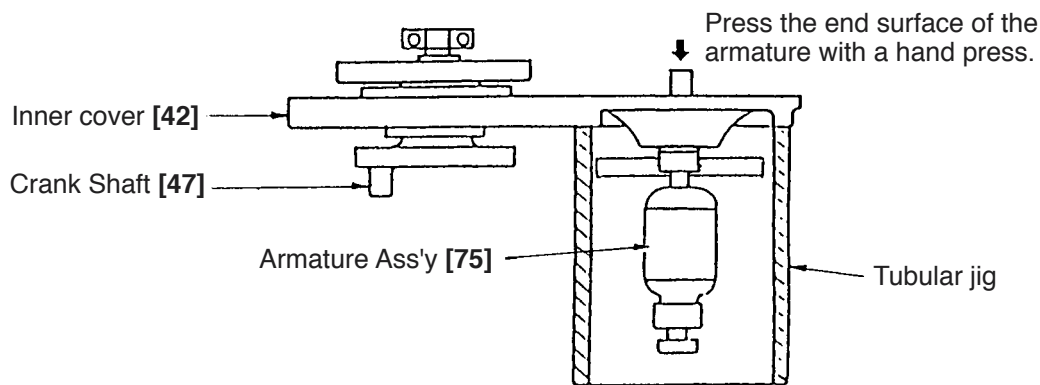

Fig. 4
(1) Disassembly of the Armature Ass'y [75]
- C. Remove the four Seal Lock Hex. Socket Hd. Bolts M5 x 16 [63] and three Tapping Screws (W/Flange) D4 x 25 (Black) [96]. Remove Handle (A) [85], Handle (B) [87], four Nylock Bolts (W/Flange) M5 x 12 [105] and Back Cover [82]. Remove the six Seal Lock Hex. Socket Hd. Bolts M6 x 45 [60], Gear Cover [38] and Counter Gear [65]. Insert a flat-blade screwdriver or a similar tool into the air vent of the Inner Cover [42] and raise the Inner Cover [42]. Then the Inner Cover [42], Armature Ass'y [75] and Crank Shaft [47] can be removed as a single unit. At this time, be very careful not to damage the Fan [74].
- D. As illustrated in Fig. 4, support the Inner Cover [42] with an appropriate tubular jig, and push down on the end surface of the armature shaft with a hand press to separate the Armature Ass'y [75] from the Inner Cover [42].